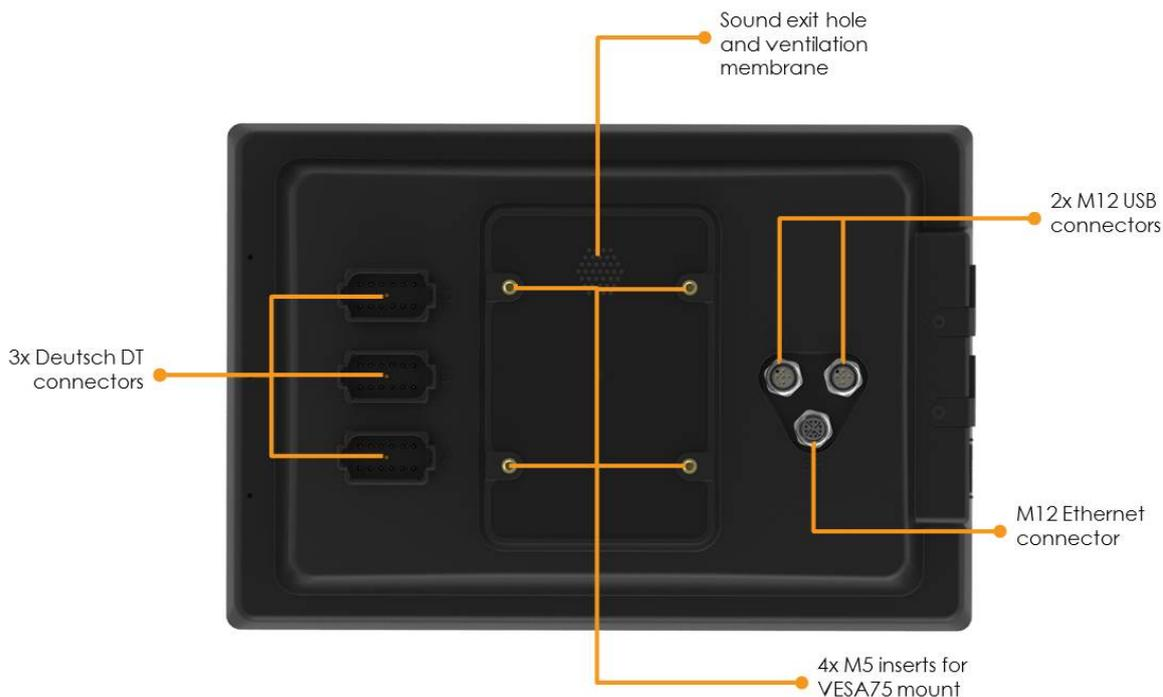

Figure 3: CCpilot VS rear side view
- The device has a ventilation membrane, refer to Figure 3 for the location. For proper ventilation of the device, dirt and water must be prevented from accumulating and covering the membrane. Be cautious not to insert objects which may puncture the membrane. Doing so will violate the IP-classification and void the warranty of the device.